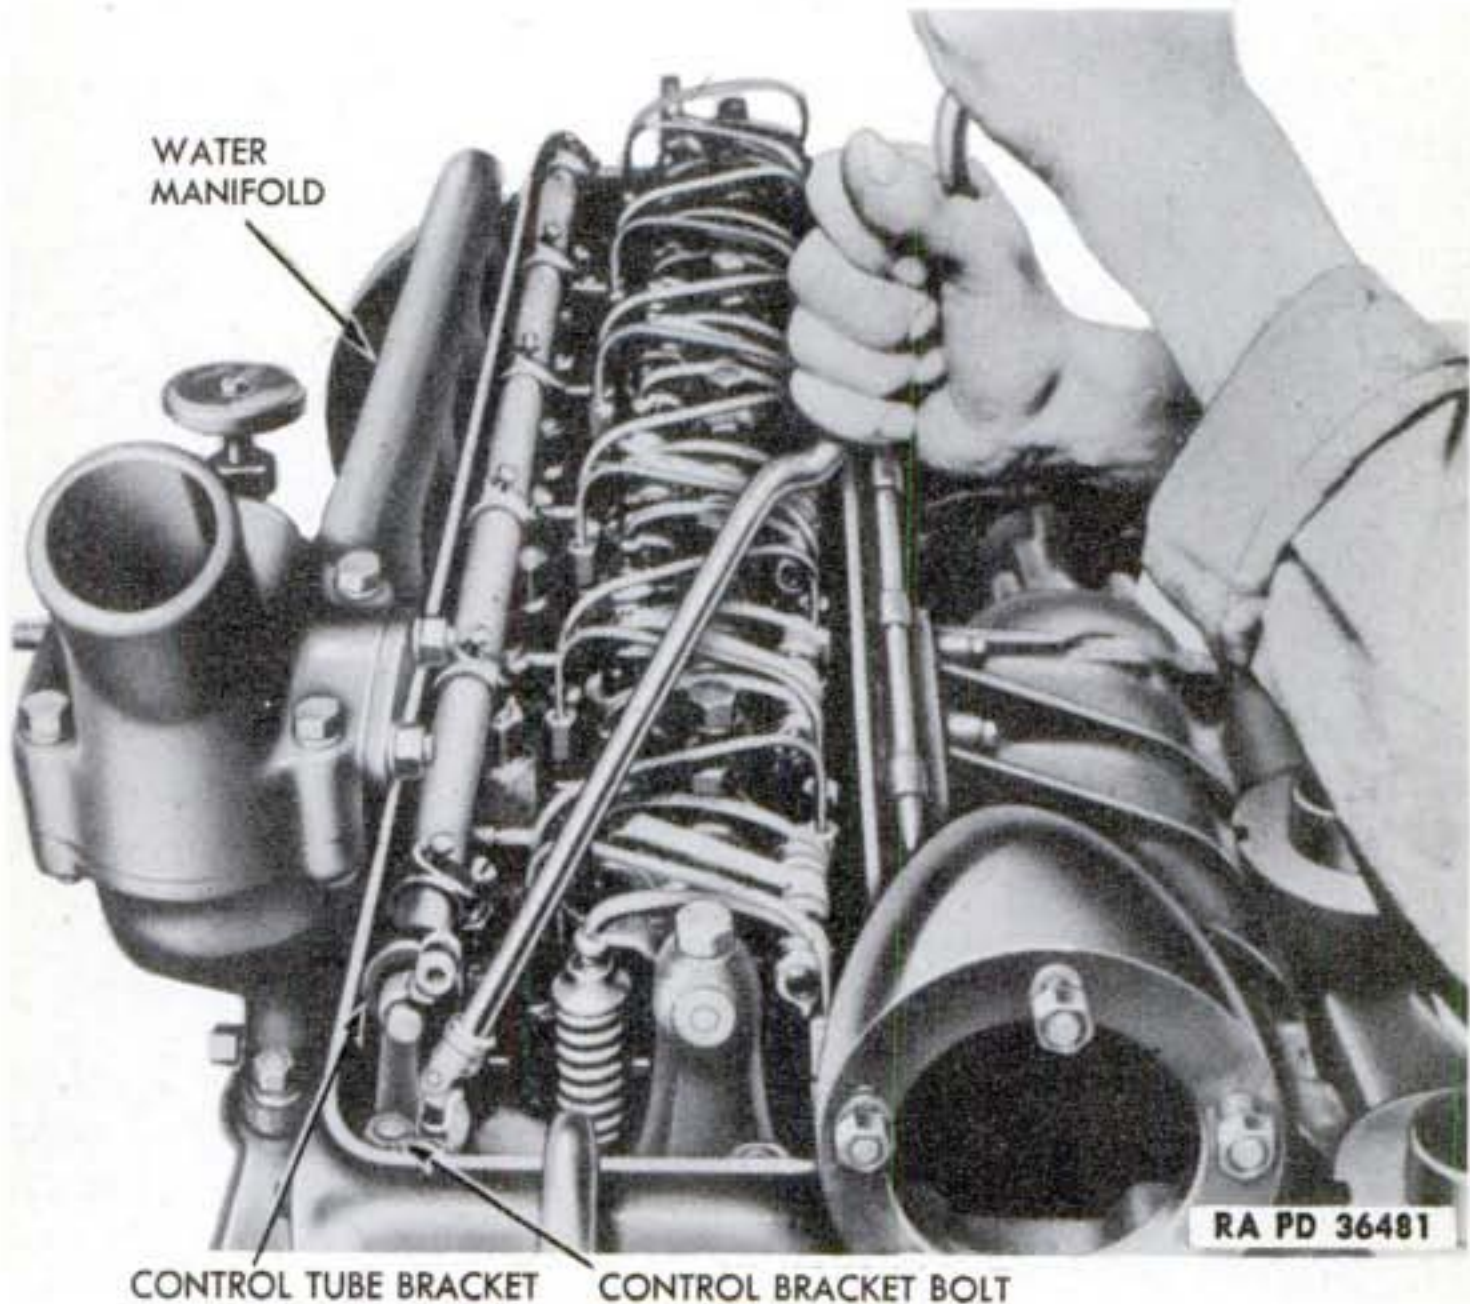

Figure 45—Removing Injector Control Tube
a. **Description.** The oil cooler on each engine serves a dual purpose. It cools the hot engine oil when air temperature is high, and heats the cold oil during engine warm-up period and when the air temperature is low (fig. 45). The oil is forced through a multiple plate cooling unit which is surrounded by the cooling liquid circulating through the engine.
a. Description. The injector control tube is mounted on ball bearings in two control tube brackets, one at each end (fig. 45). The six rack control levers on each control tube which are linked to the injector racks are individually adjustable so that the rack setting for each injector can be adjusted independently of the others. A coil spring placed over the lever end of the control tube maintains a twisting force on the tube to hold the injector racks in "NO FUEL" position, unless the throttle is positioned otherwise. The injector control tube is operated by the control tube lever, at fan end of tube, which is linked to the governor control lever.
b. Removal of Injector Control Tube. Remove rocker arm cover (par. 82 b). Pull out cotter pin, and remove clevis pin and disconnect injector control tube link at injector control tube lever. Remove two bolts which attach each control tube bracket to cylinder head and lift out control tube and bracket assembly (fig. 45).